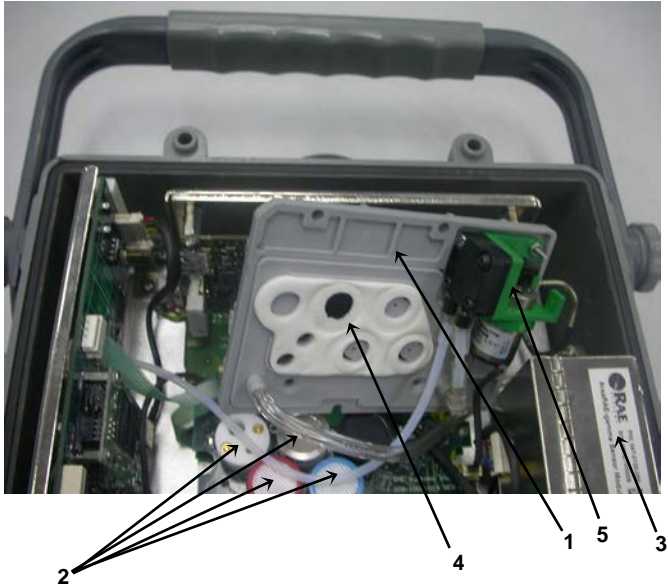

Figure 6-1 Internal Components of AreaRAE Gamma
2. Refer to Figure 6-1: Open the monitor cover by unscrewing the four hex screws that holds the front and back housing together.
2. Refer to Figures 6-1, 6-2 and 6-3. Remove the four hex screws holding the instrument housing together.